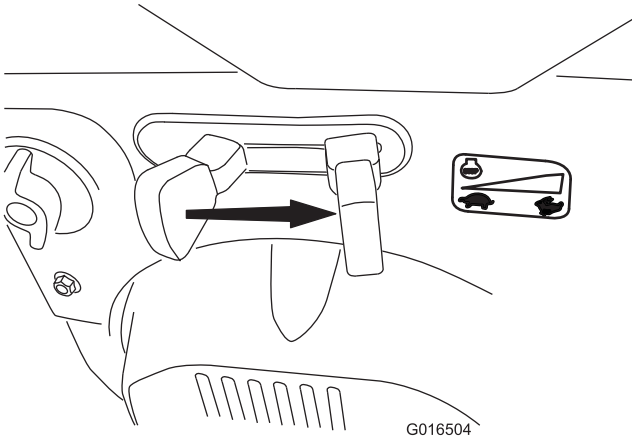

Figure 25
6. Move the throttle to the FAST position (Figure 25).